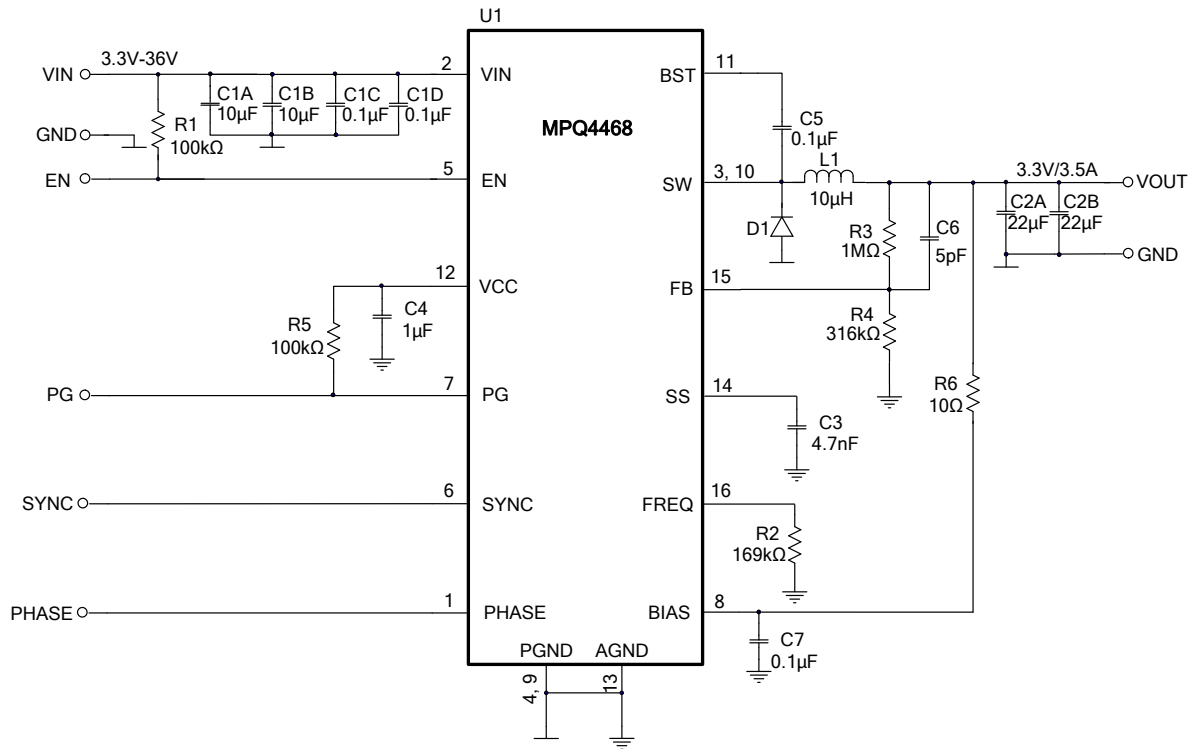

Figure 9: $V_{OUT} = 3.3V$, $f_{sw} = 500kHz$
- 7) The recommended PCB layout is based on Figure 9.